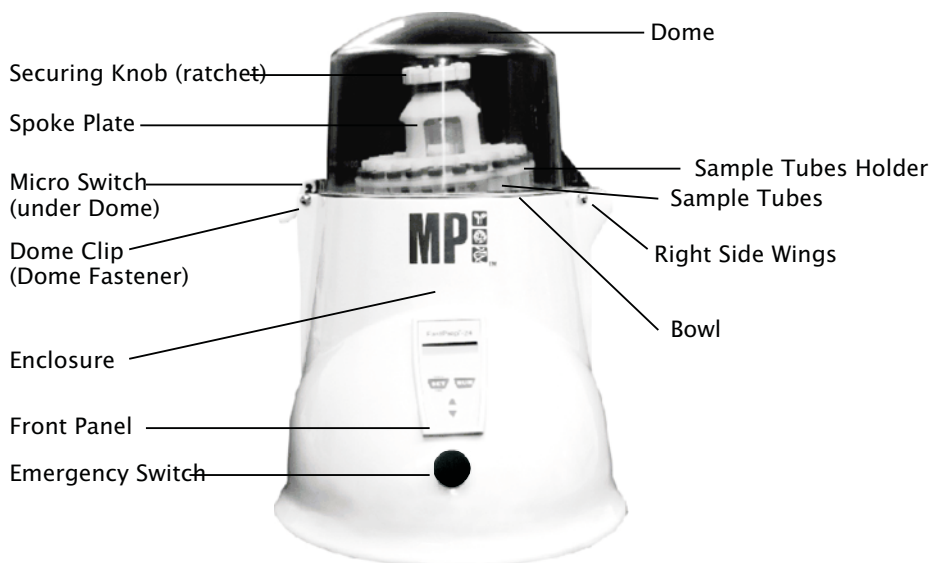

Fig. 1 (Front view)
Different parts of FastPrep®24 are shown below: (Fig 1 & 2)
**EMERGENCY NOTE:** In case any difficulties **Push** the Emergency Switch to stop the instrument at any time (on the front panel of the instrument) Ref. Fig. 1 In this, the instrument will be completely isolated from AC mains. **Pull** the emergency switch again to make the instrument ready to Restart.